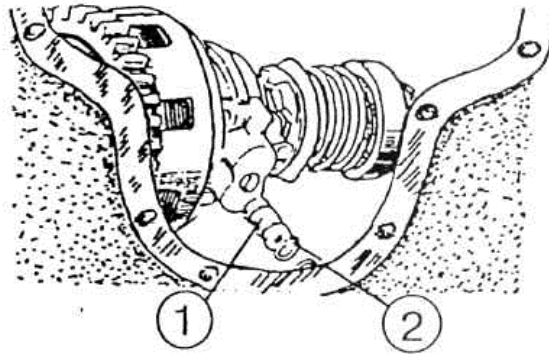

Figure 5.3
- 1) via right-side window of GB body dismount bushing (1) (Figure 5.3) with sealing rings 2.